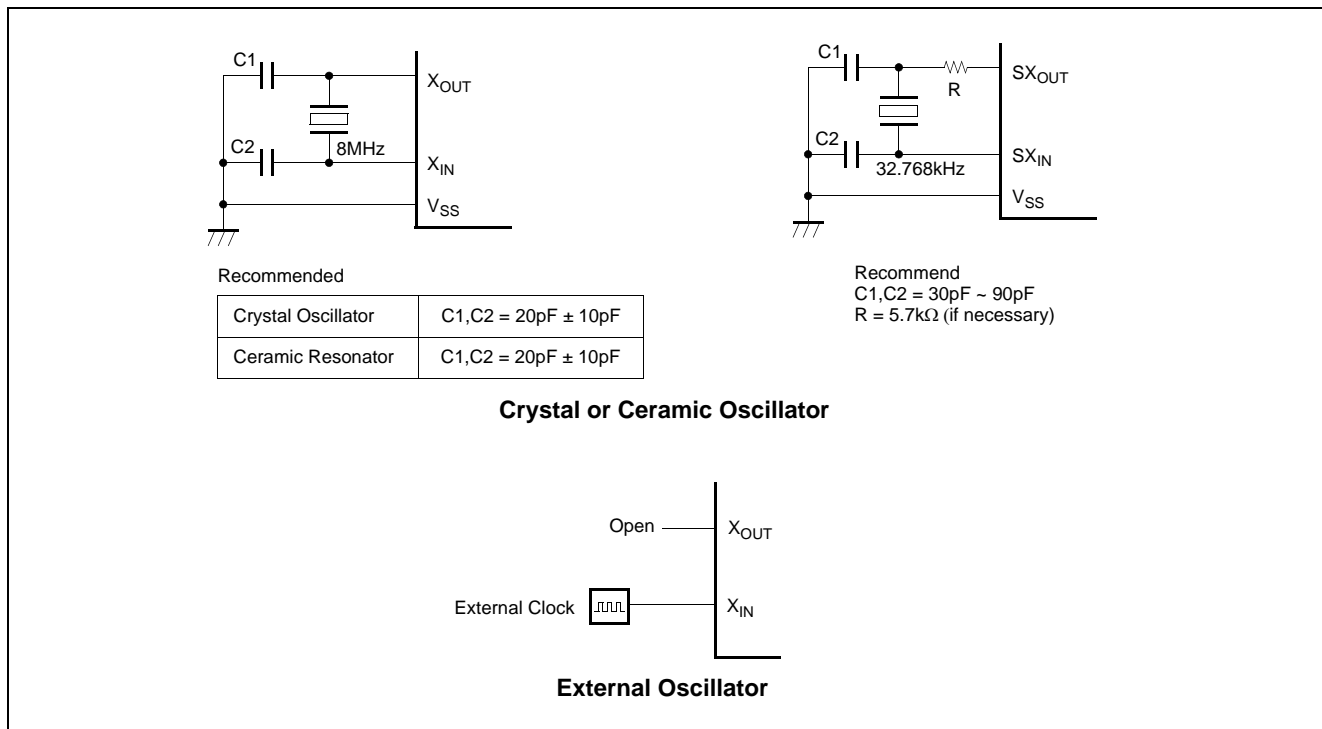

Figure 22-1 Oscillation Circuit
The MC80F0424/0432/0448 has two oscillation circuits internally.  $X_{IN}$  and  $X_{OUT}$  are input and output for frequency, and  $SX_{IN}$  and  $SX_{OUT}$  are input and output for sub frequency, respectively, inverting amplifier which can be configured for being used as an on-chip oscillator, as shown in Figure 22-1.
**Note:** When using the sub clock oscillation, connect a resistor in series with  $R$  which is shown as below Figure 22-1. In order to reduce the power consumption, the sub clock oscillator employs a low amplification factor circuit. Because of this, the sub clock oscillator is more sensitive to noise than the main system clock oscillator.